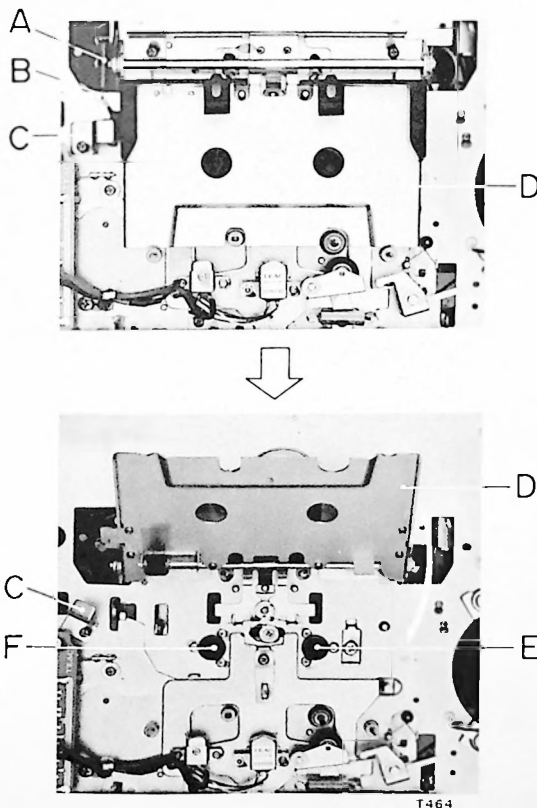
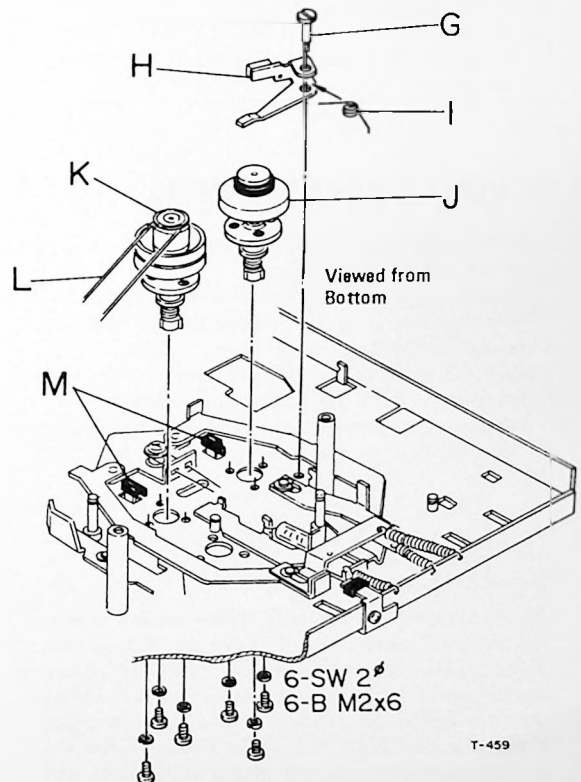

Fig. 3-8 Rotation of Cassette Holder
Fig. 3-9 Reel Tables Replacement
2. See Fig. 3-8 for step 2 to 4. Remove the Spring (A) from the hook (B) of the Cassette Holder (D).
3. Loosen the screw on the Stopper Bracket (C) and then partially turn the Bracket in the direction indicated by the arrow.
7. See Fig. 3-9 for step 7 to 9. When only the Supply Reel Table (J) is to be removed, first take out the Back